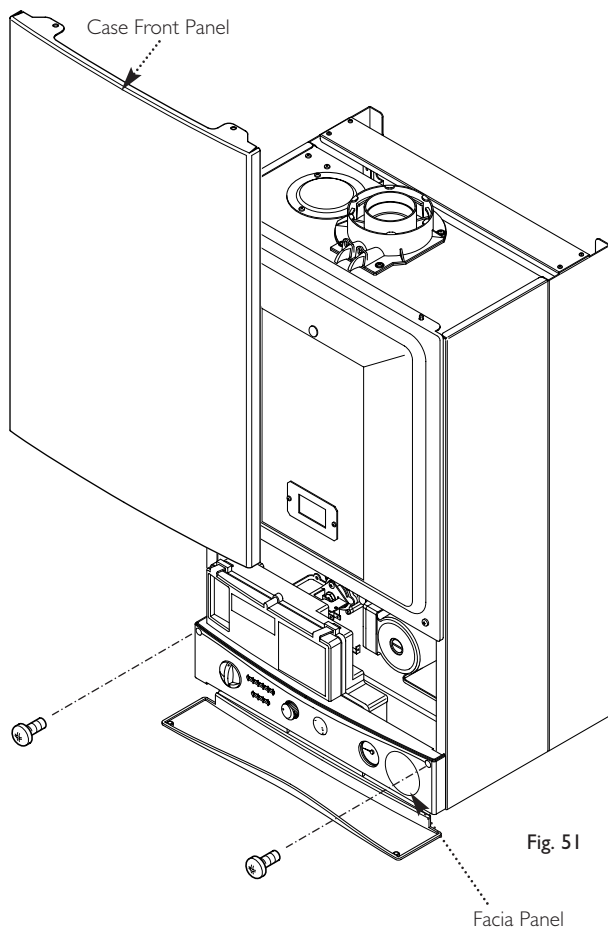

Fig. 51
1. Hinge the facia panel upwards and refit the case front panel. Tighten the securing screws (Fig. 51).